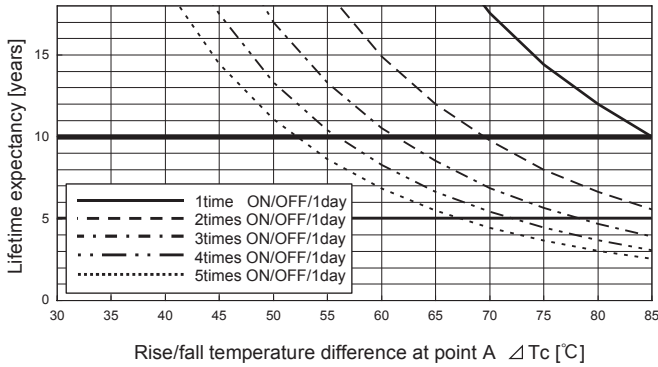

Fig.13.7 Lifetime expectancy against rise/fall temperature difference
■ Product lifetime expectancy depends on case temperature difference (ΔT_c) and number of cycling in a day is shown in Fig.13.7 (It is calculated based on our accelerated process test result.)
■ The warranty period is basically 10 years, however it depends on the lifetime expectancy which is shown in Fig.13.7 if it is less than 10 years.